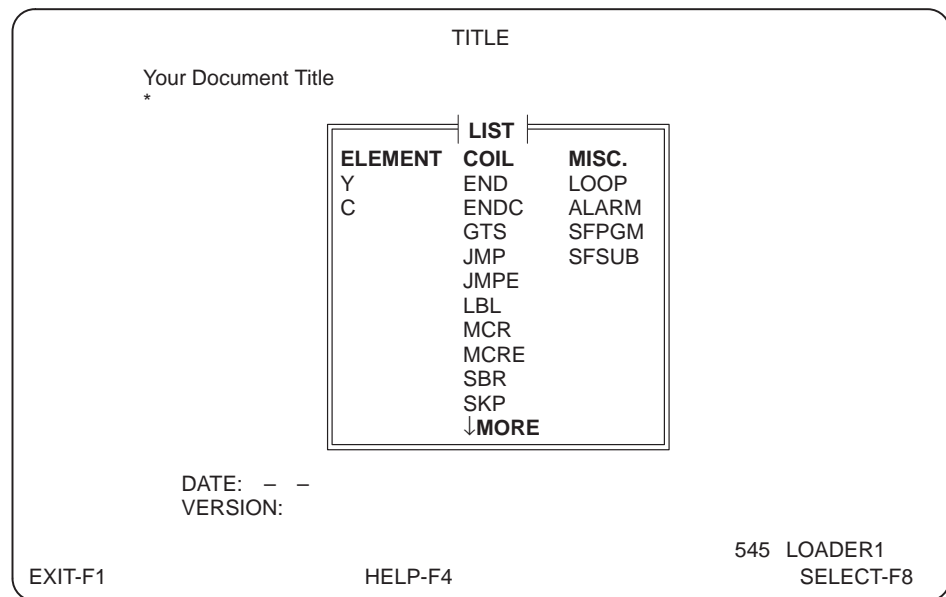

Figure 9-3 Comment Pop-up Element List
1. Press **[V]** or Shift **[?]** to display a full listing of elements that may be commented. See Figure 9-3.